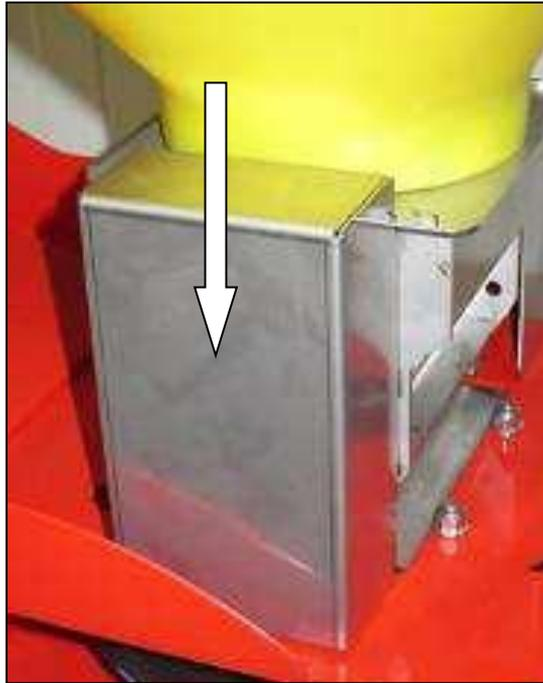

Fig.: 90
- Installing the cover hood for the drive rollers (Fig.: 90)